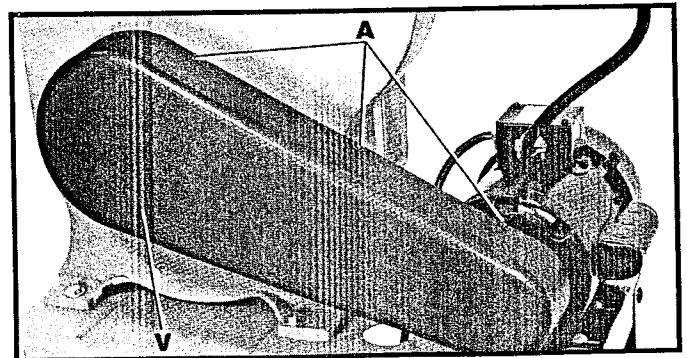

Fig.16
8. Assemble outer belt and pulley guard (V) to the inside belt and pulley guard and tighten the six screws, three of which are shown at (A) Fig. 16.